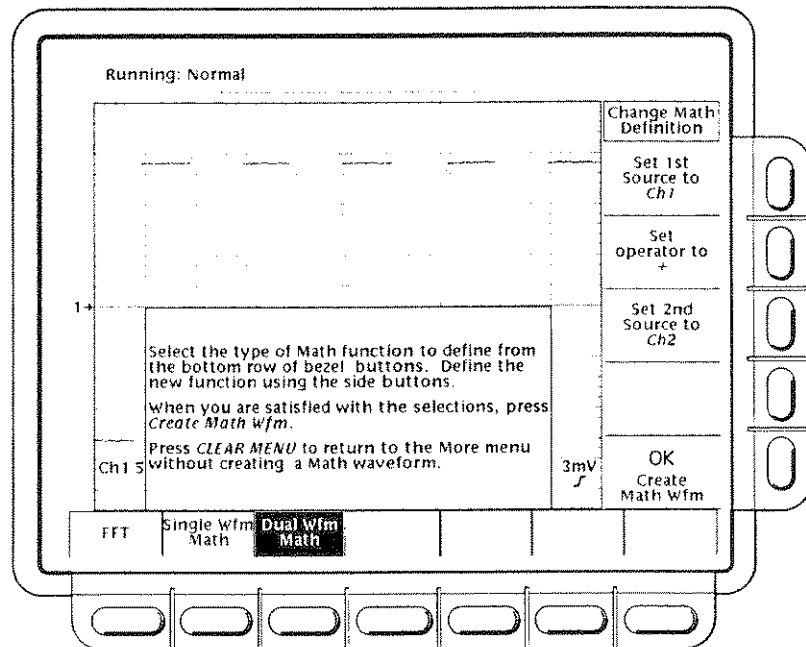

Figure 3-71: Dual Waveform Math Main and Side Menus
2. Press **Change Math waveform definition** (side) → **Single Wfm Math** or **Dual Wfm Math** (main) to alter the present math waveform definition (see Figure 3-71).